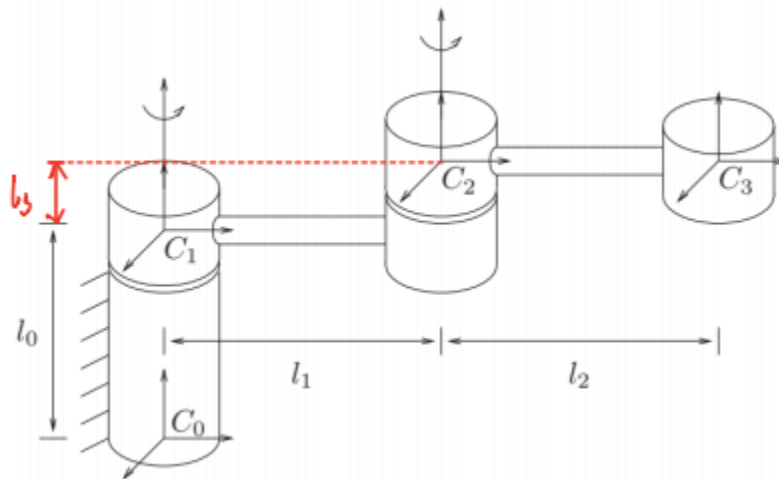

Fig.1. A two degree of freedom manipulator
- Figure 1 shows a two degree of freedom manipulator. Let l_0, l_1, l_2 be the link length parameters and θ_1, θ_2 the joint angle variables of link 1 and link 2, respectively.